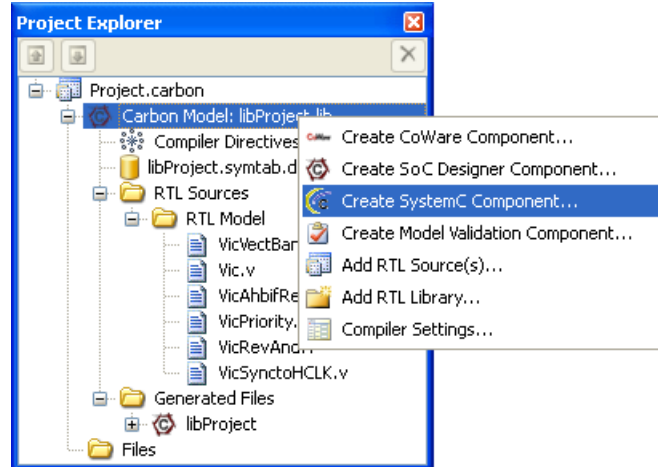

Figure 5-55 Create Component for SystemC
2. From the context menu, select *Create SystemC Component* (Figure 5-55).